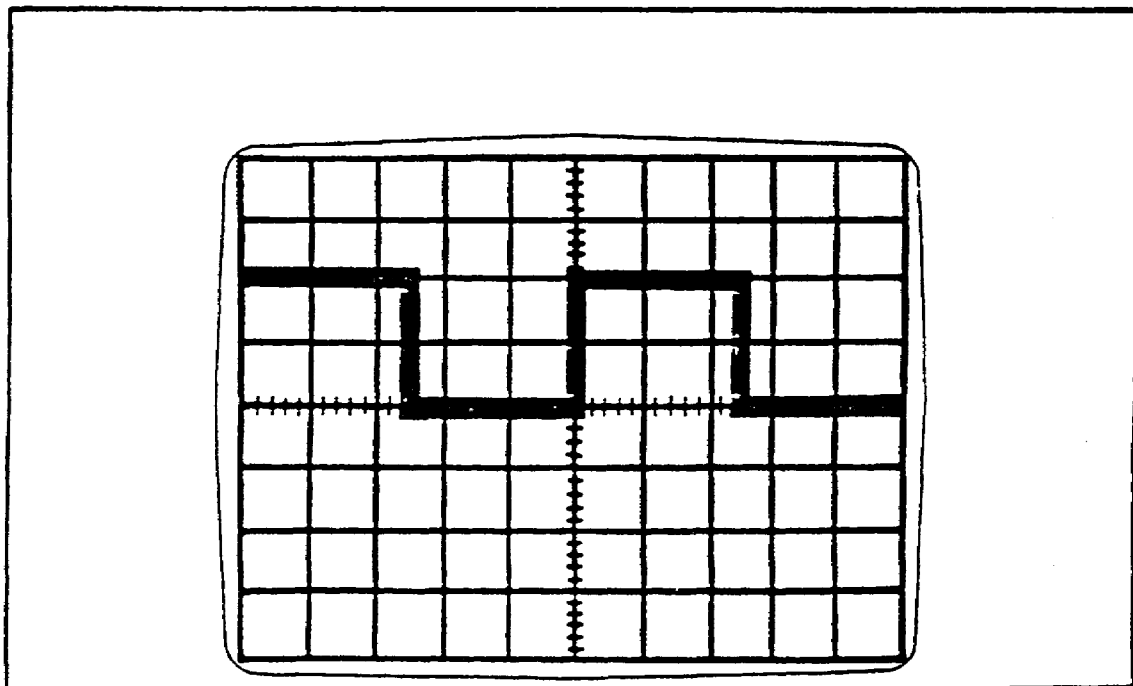

FIGURE 9. TWO SQUARE WAVES.
Step 5. Connect one end of a coax cable to the CALIBRATOR connector located on the main frame of the scope. Connect the other end to the INPUT connector of the left vertical amplifier. You should have two complete cycles of a square wave displayed on the screen (figure 9, on the next page). It may be necessary to adjust the LEVEL control to obtain a stable display. Adjust both POSITION controls to center the displayed waveform.
Step 6. If the waveform is not exactly two divisions or grid squares high, the gain of the vertical amplifier should be adjusted. Use a small screwdriver and adjust the GAIN control for a waveform exactly two divisions high (1 volt peak-to-peak) as shown in figure 9.